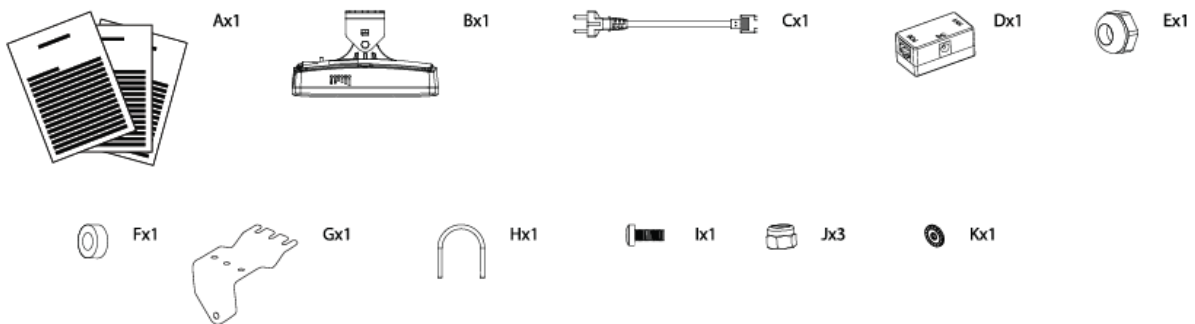

Figure 1 – APC 2M-14 Package Contents
- Step 3.** Attach mounting hardware (item C in the *Figure 1 – APC 2M-14 Package Contents*) to the unit and tighten with the nut and bolt (items I and J in the *Figure 1 – APC 2M-14 Package Contents*).
- Step 4.** For pole mounting attach APC 2M-14 on pole with U bolt (items H and J in the *Figure 1 – APC 2M-14 Package Contents*) as shown in picture below:
- Step 5.** Connect Ethernet cable into the APC 2M-14 then insert a rubber gasket (item F in the *Figure 1 – APC 2M-14 Package Contents*) into CAT5 Ethernet connector gland and tighten with gland cap (item E in the *Figure 1 – APC 2M-14 Package Contents*) as displayed below: